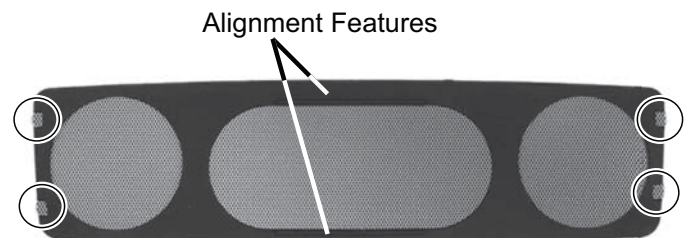

Figure 29. Front Grille Gasket and Tabs
7.1 Align the replacement grille in the grille gasket so the tabs protrude through the holes on the edges. Figure 29 and 30.
7.3 Align the grille tabs with the cabinet and then press down on the center of the grille. A roller can be used to ensure the alignment features on the grille gasket rest in the corresponding features in the baffle. Figures 29, 30, and 31.